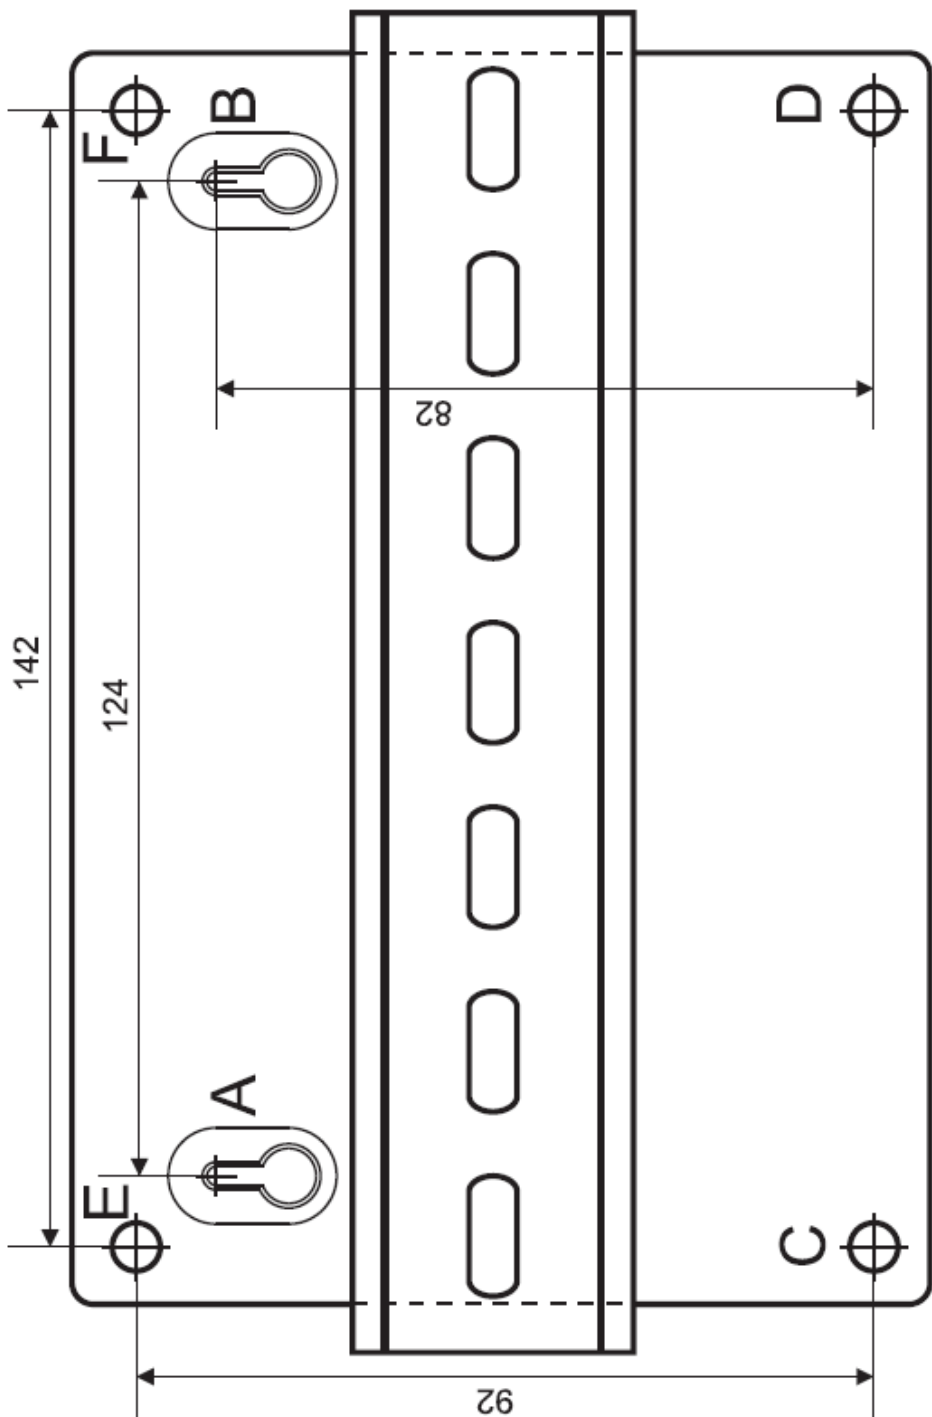

Figure 9. Mounting Pattern
3.2.3 **Variant 1.** Apply the mounting pattern to the wall (Figure 9). Drill three holes (A, B, and C or D at your option).
3.2.7 **Variant 2.** Apply the mounting pattern to the wall (Figure 9). Drill three holes (E, F, and C or D at your option).